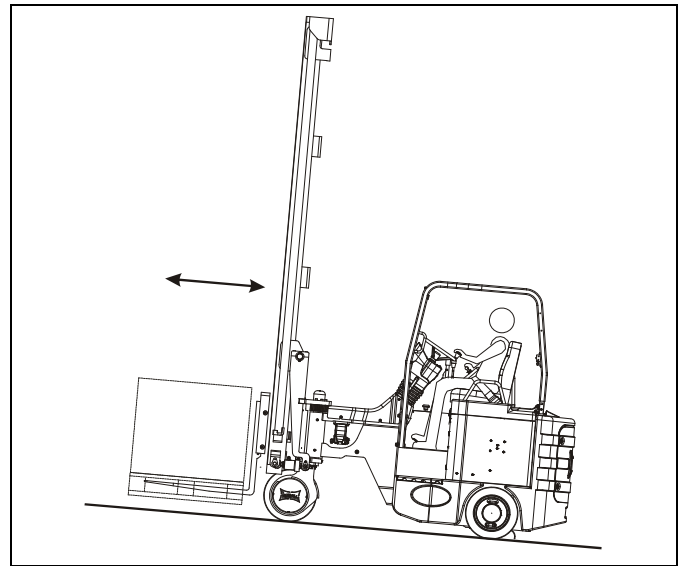

Figure 4-17: Traveling Uphill
- **Always keep the load pointed uphill.** See Figure 4-17. Travel with the forks facing uphill whether you are going up or down an incline. You must then back down an incline when you are carrying a load. If vision is obscured, arrange for a 'Banksman' to guide you.